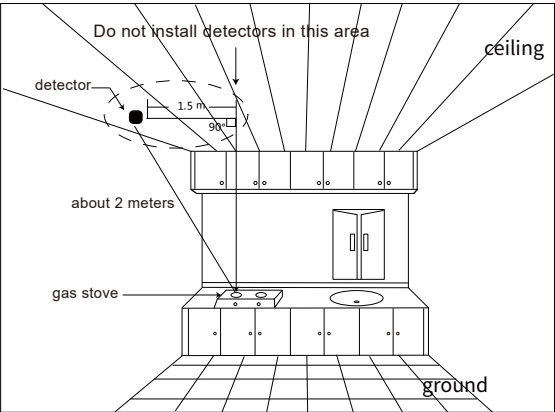

figure 2
1. Select the installation location and installation method according to the actual situation. If wall-mounted installation is used, it is recommended to be about 30~100cm away from the ceiling, 1.5m away from the air source radius, and within 3m of the air source; the best installation is the ceiling, it is recommended to install it above the air source The ceiling is about 2m away from the gas source in a straight line, as shown in Figure 2;